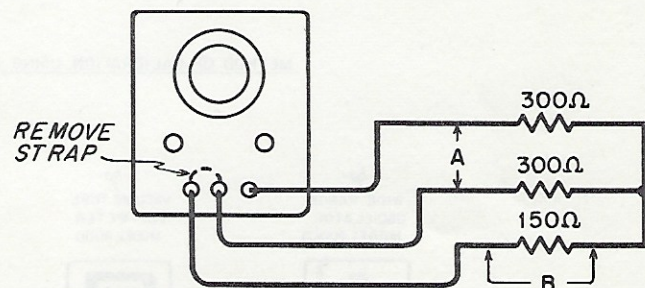

Figure 2. Output Balance Test
Remove grounding strap from output terminals and connect two 300-ohm ±1% non-inductive resistors and one 150-ohm ±1% resistor as shown in Figure 2.
Adjust AMPLITUDE control for 10 volts between points A in Figure 2 and record this voltage as the reference level. Now measure the voltage across the 150-ohm resistor (B). A reading of -60db corresponds to 0.1% and -40 db corresponds to 1%.